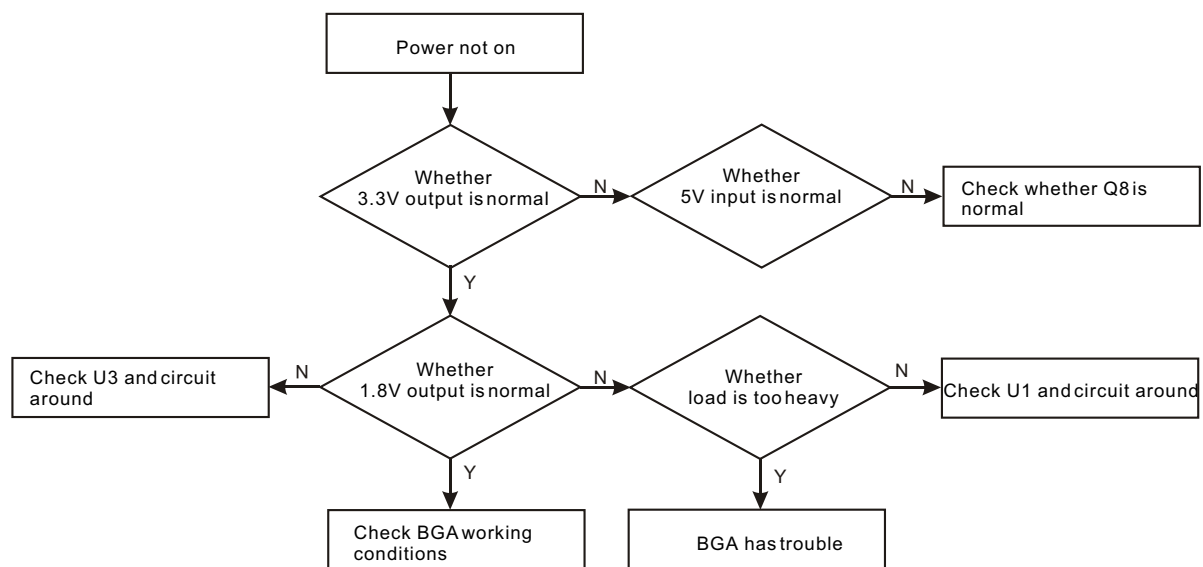

Figure 3.3.2.5 Power management circuit troubleshooting flow chart
6. Troubleshooting process for “Machine not switched on” is shown in the figure 3.3.2.6: